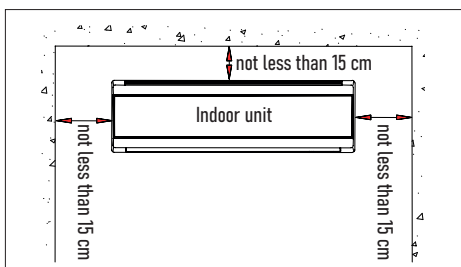

Figure 1
- Check the installation distances as shown in Fig. 1.